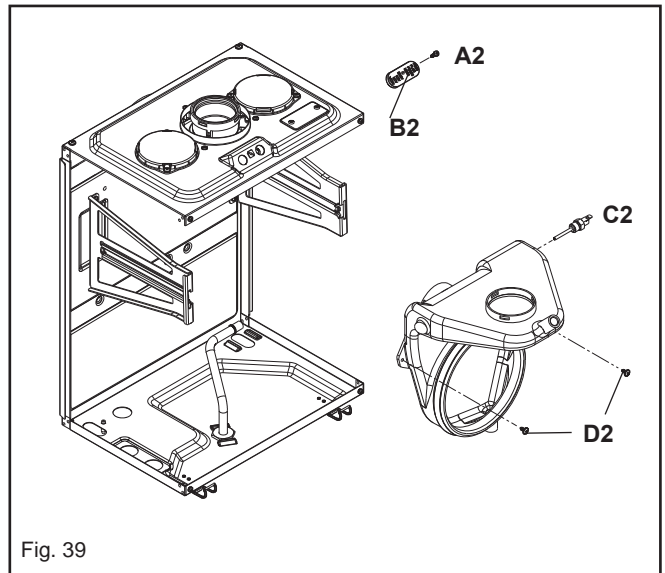

Fig. 39
6.20 FLUE COLLECTOR REMOVAL (fig. 39)